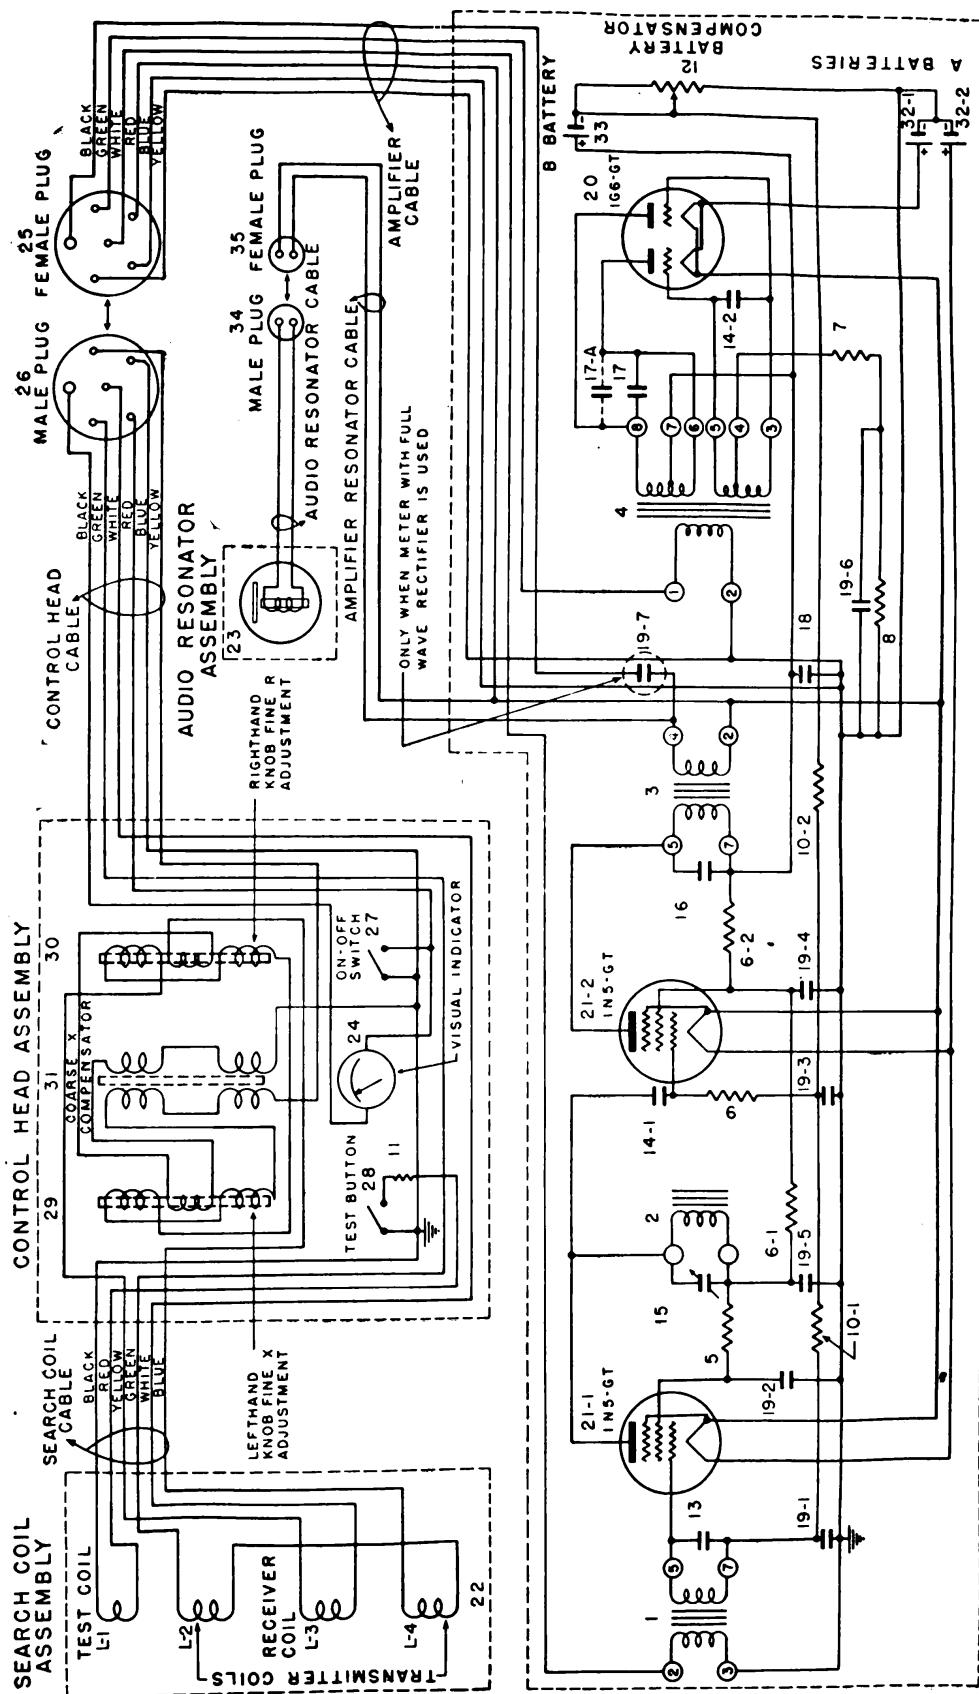

Fig. 16 Detector Set SCR-625-(*), Schematic Diagram
(1) Connect a wire from terminal 1 of terminal strip 59, and momentarily touch terminal 9 with the other end. This should cause a deflection of the output meter. If there is no indication, test the male (26) and female (25) connectors of the connecting cables, and if they show continuity, replace the output meter.
(2) Substitute a new tube in each socket, and test the amplifier for operation. If the amplifier does not function, look for broken wires and loose connections.
(3) Test transformers and choke windings according to the resistance and continuity table. Check "B" voltage terminals of the transformers for shorts to ground.
(4) With an ohmmeter, check all resistors and capacitors, and the battery compensator (12), following the schematic diagram, (figure 16.)
(5) If all tests fail, replace the whole amplifier chassis with a new one. After any repairs or replacements have been made, always realign the equipment, and readjust the battery compensator (12). See paragraph 26.
a. *To replace search-coil.*—(1) Remove bottom plate (71) of the control box by detaching screws.